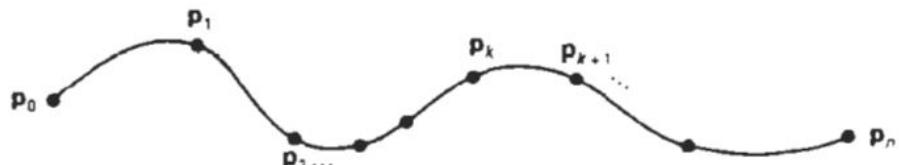

Figure 10-26
- A cubic interpolation fit of these points is illustrated in Fig. 10-26